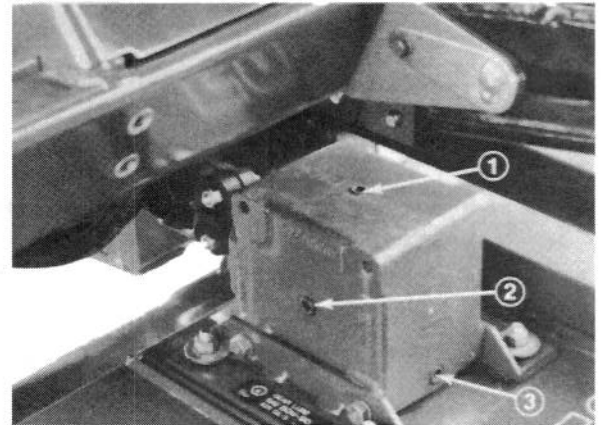

Figure 4
2. Remove the check plug from the side of the gear box and make sure lubricant is up to bottom of the hole (Fig. 4). If the level of lubricant is low, remove the fill plug on top of the gear case and add enough lubricant to bring it up to bottom of the hole in the side.